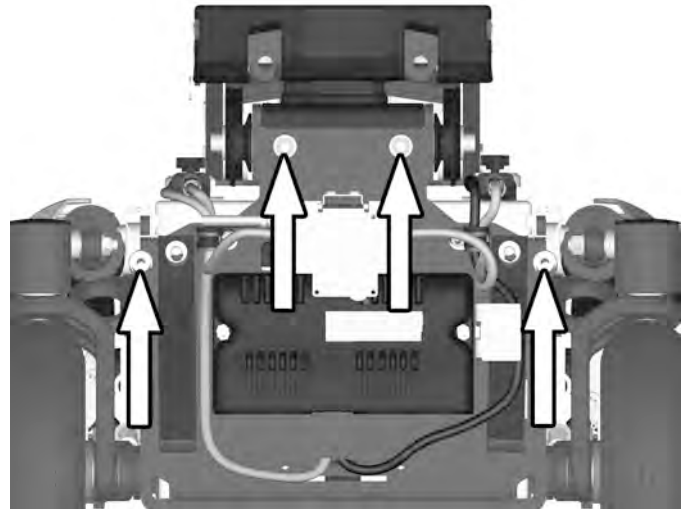

Figure 29. The battery box is secured with four screws.
6. Remove the four screws holding the battery box. See fig. 29.